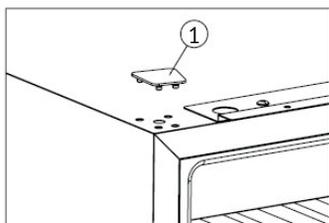

Figure 3
➔ Remove the germinal lid ① (Figure 3).